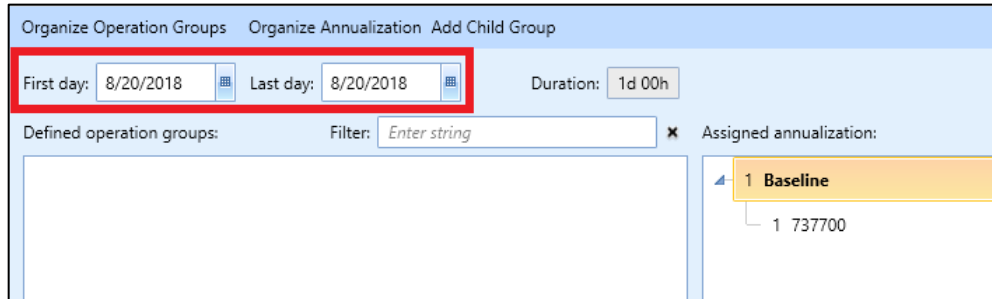

Figure 31. Create Annualization Wizard – Build Annualization
10. Make sure that the First day and Last day are both set to the default operation date, and that the *Duration* is 24 hours (Figure 31). If the two dates are different, it means that the operation time of one of the aircraft operations was not assigned correctly.